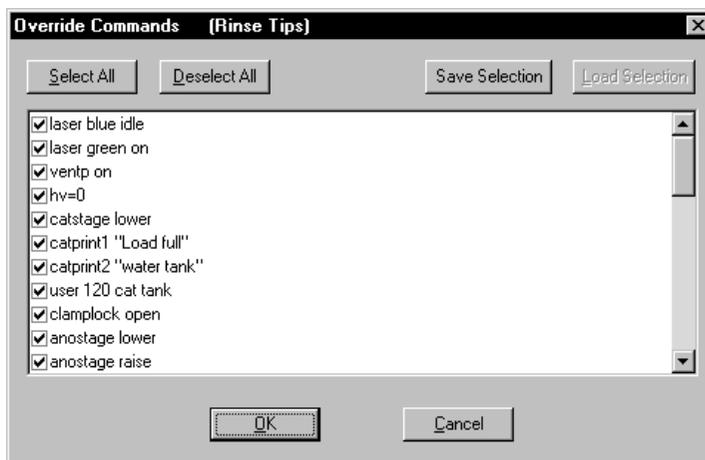

Figure 7-3. The Override Commands window.
3. Type the appropriate password and click **OK**. The Override Commands window appears (figure 7-3).